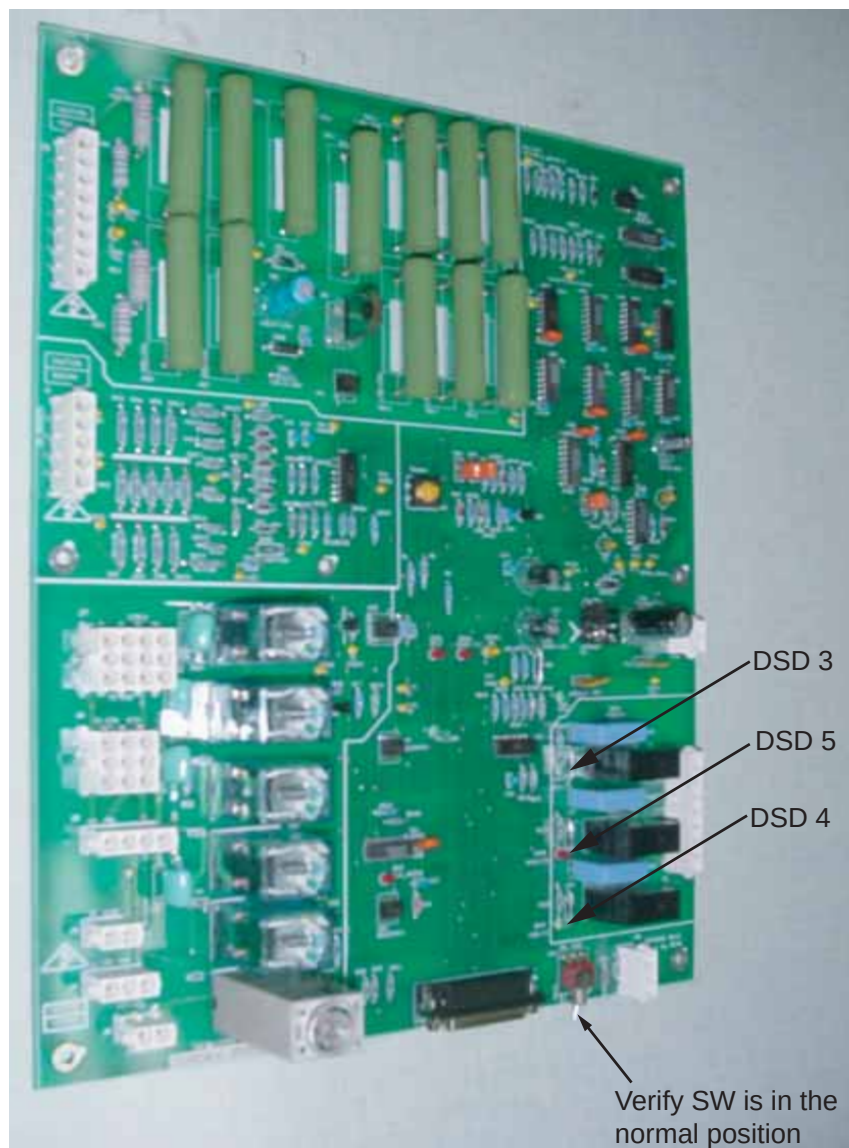

Figure 2-2 NGPDU Control Board
- 2.) When system is already, three lamps are both lighting (refer to Figure 2-2).